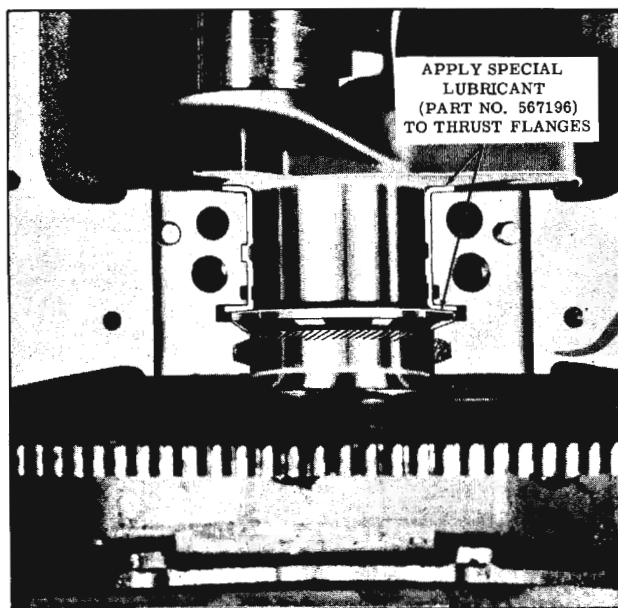

Fig. 8-33 Rear Main Bearing
5. No. 5 bearing - apply Special Lubricant, Part No. 567196 to the thrust flanges of bearing shells. (Fig. 8-33)